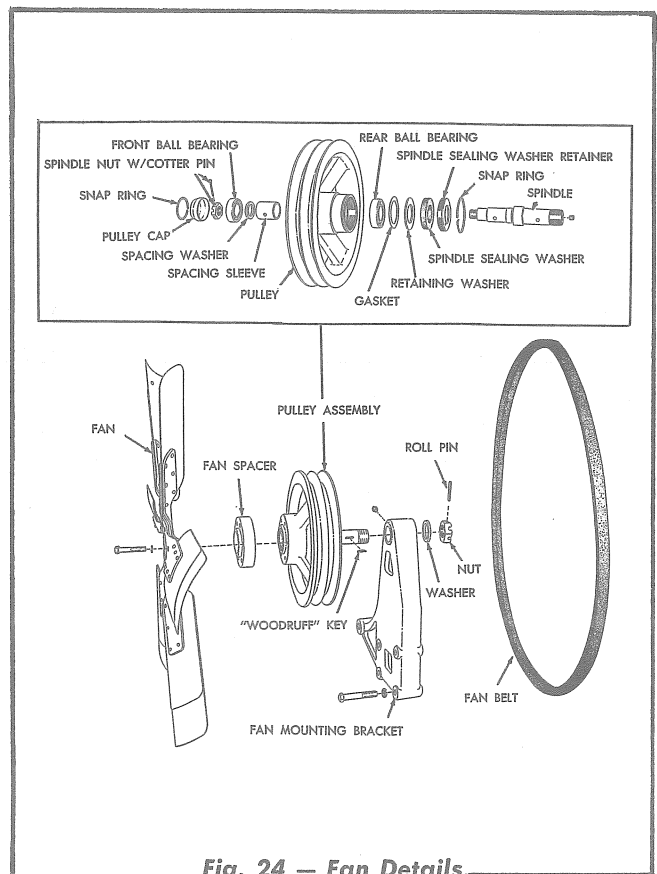

Fig. 24 — Fan Details
C. Disassembly of Fan Pulley (Fig. 24)
E. Assembly of Fan Pulley (Fig. 24)